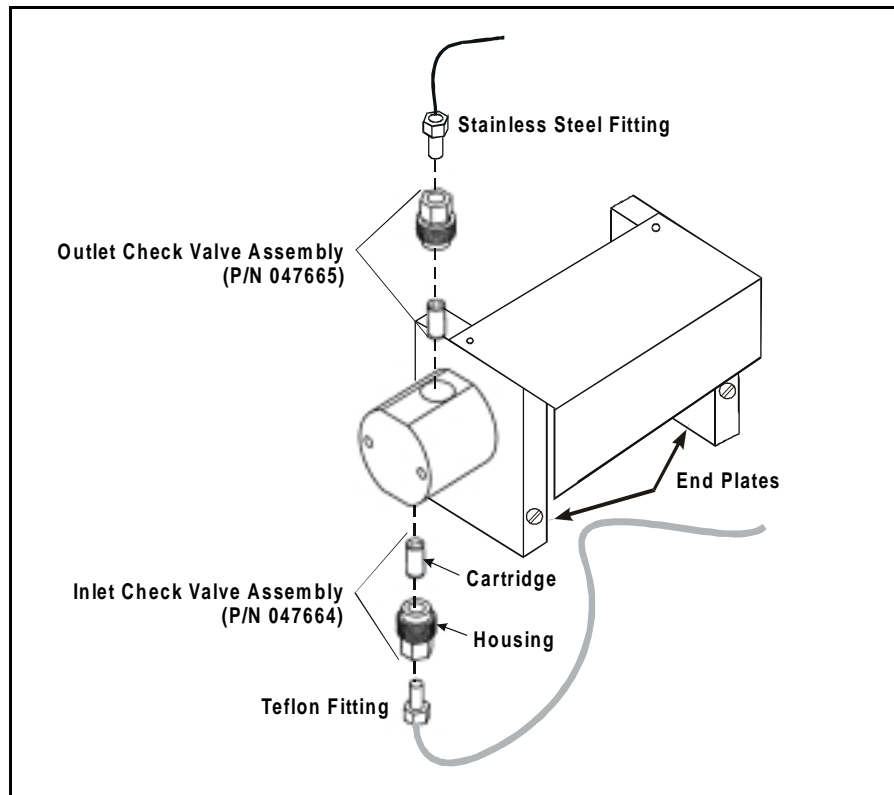

Figure 5-2. Pump Check Valves
3. Use a 1/4-inch wrench to disconnect the stainless steel fitting from the outlet check valve (see Figure 5-2).
4. Disconnect the Teflon fitting from the inlet check valve (see Figure 5-2).
6. Remove the two screws in the end plates (see Figure 5-2). The end plates secure the pump to the component panel.
4. Disconnect the Teflon fitting from the inlet check (see Figure 5-2).